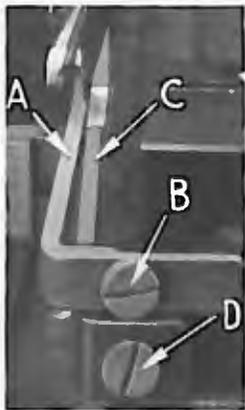

Fig. 6
Set rear needle guard (A, Fig. 6) as high as possible, without interfering with either lower looper or movement of lower knife holder, but still in position to deflect needle or needles forward .002-.004 inch (.051-.102 mm). Screw (B) is used to set rear needle guard. Make sure there is no interference between rear needle guard and lower looper.
Assemble front needle guard (C, Fig. 6). When lower looper is springing needle off rear needle guard, set front needle guard as close as possible to needle without touching. Screw (D) is used to adjust and set front needle guard. After this setting make sure there is no interference between needle guards and differential feed dog.